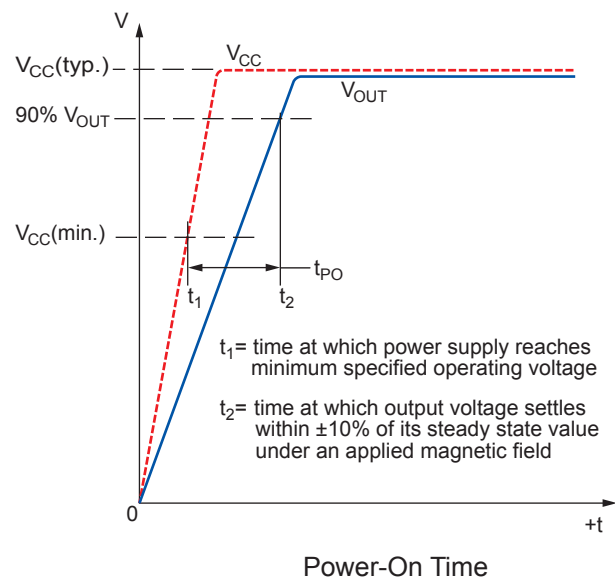

Figure 2.  $V_{CC}$  and  $V_{OUT}$  during power-on time interval
**Power-On Time** When the supply is ramped to its operating voltage, the device requires a finite time to power its internal components before responding to an input magnetic field. Power-On Time,  $t_{PO}$ , is defined as: the time it takes for the output voltage to settle within  $\pm 10\%$  of its steady state value under an applied magnetic field, after the power supply has reached its minimum specified operating voltage,  $V_{CC(min)}$ , as shown in figure 2.